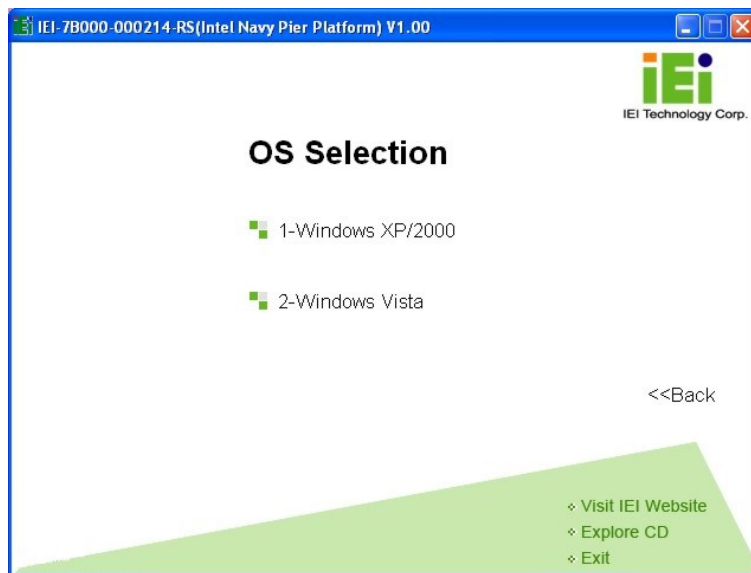

Figure 6-2: Select Operating System
Step 4: The screen in Figure 6-2 appears.